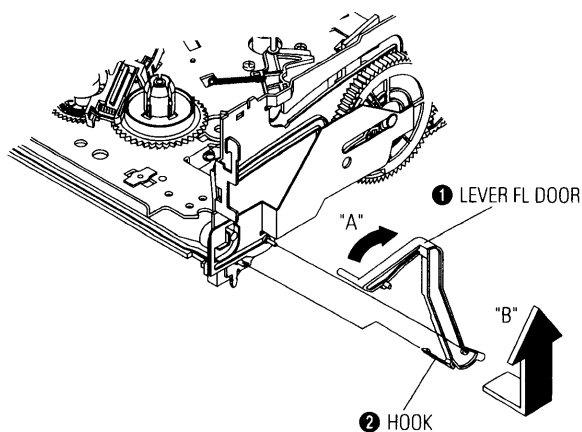

Fig. 4-10 Lever FL Door Removal
- 1) Remove the Lever FL Door. (Refer to Fig. 4-10)
- 2) Pull the Holder FL Cassette Ass'y ❶ to the eject position.
- 3) Pull the Holder FL Cassette Ass'y ❶ as grasping the Holder FL Cassette Ass'y ❶ and Lever FL Cassette-R ❷ in the same time to release hooking from Main Base until the Boss [A], [B] of Holder FL Cassette Ass'y ❶ is taken out from the Rail [C], [D].
- 4) Lift the Holder FL Cassette Ass'y ❶ in the direction of arrow "B" in this time, you have to grasp the Lever FL Cassette-R ❷ continuously until the Holder FL Cassette Ass'y ❶ is taken out completely.